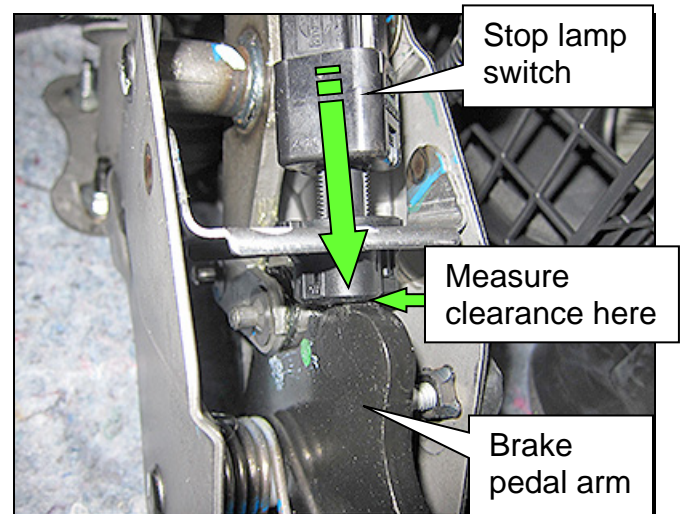

Figure 31
- b. While unlocked, gently push the stop lamp switch until its black plastic body contacts the brake pedal arm (Figure 31).
- d. Confirm the clearance between brake pedal arm and black plastic body of the stop lamp switch (Figure 31); readjust as necessary.